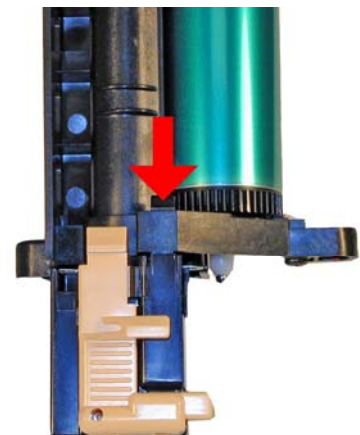

Figure 30
27) Press in on the tab, and remove the end cap. See **Figure 30**